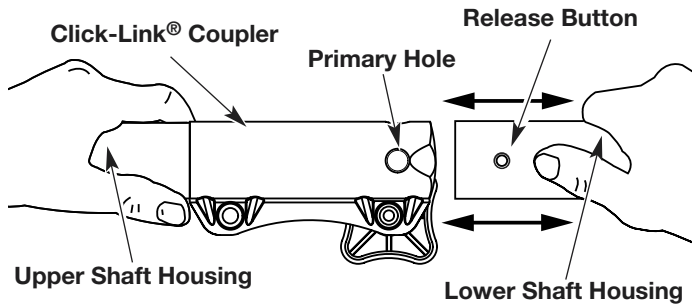

Fig. 9
3. While firmly holding the upper shaft housing, pull the cutting attachment or add-on straight out of the Click-Link® coupler (Fig. 9).
2. While firmly holding the add-on, push it straight into the Click-Link® coupler (Fig. 9).